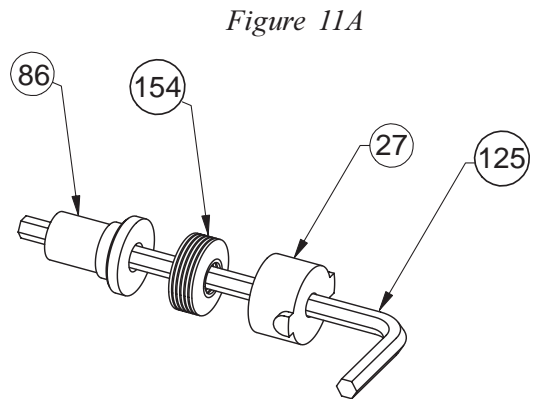

Figure 11A
- ❑ 3. Place the Diff Tube (86) over the Wrench, large side first, so that it rests against the Belleville Washers as shown in Figure 11A.
⚠ IMPORTANT NOTE: Male Outdrive defined as: Outdrive containing Diff Tube assembly (Figure 11A). Female Outdrive defined as: Outdrive containing Thrust assembly (Figure 17).